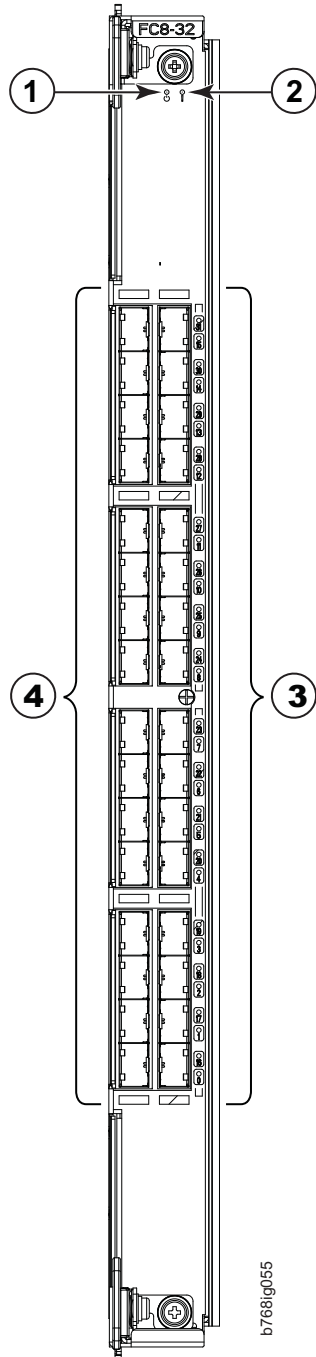

Figure 54. FC8-32 port blade
- Figure 54 on page 155 shows an FC8-32 port blade